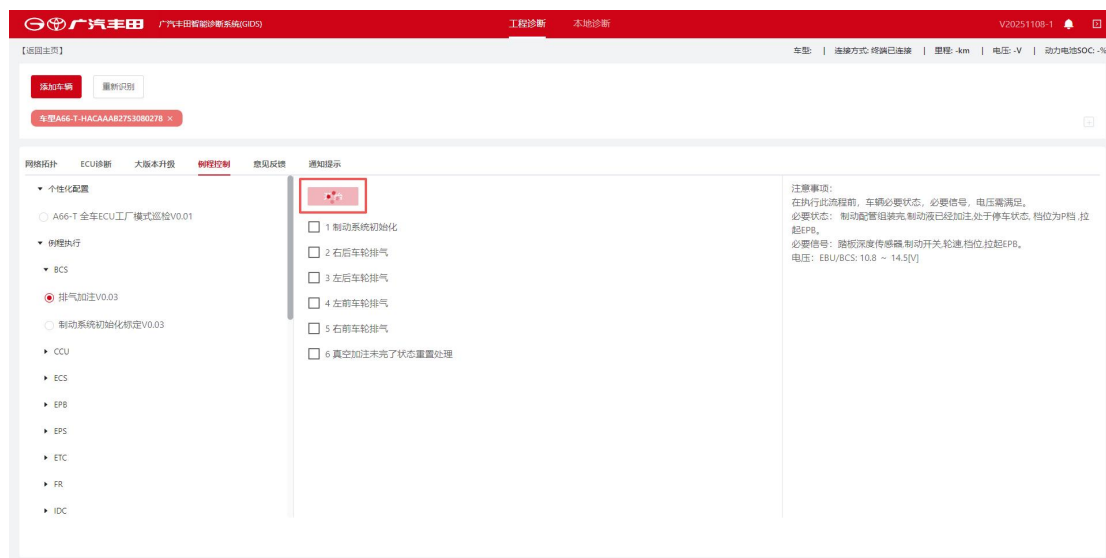

Figure 7-3 Start Routine -2
-1 and Figure 7-3 Start Routine -2.